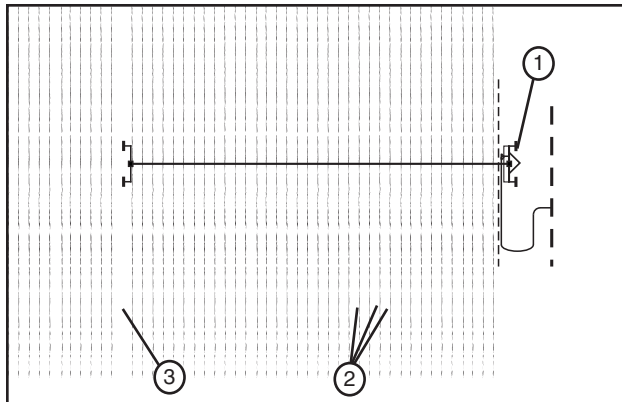

Figure 36-1 Parallel Travel
2. Plant the crop parallel to the wheel tracks allowing a minimum of 10 in (254 mm) of clearance space between each wheel track and the first crop row on either side of the wheel track. See figures 36-1 and 36-2.
1. Plant the crop parallel to where the irrigation machine will run. See figure 36-1.